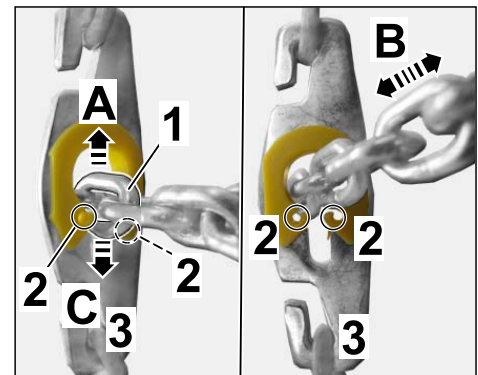
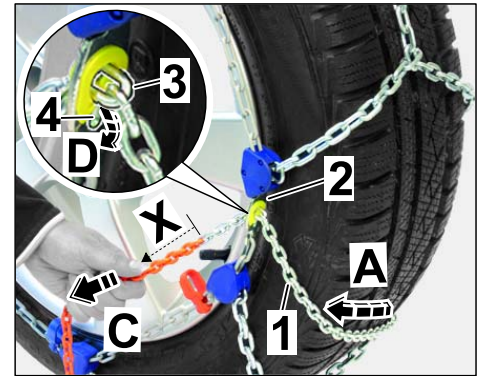

Figure 9
Figure 11
2.2.3 Guide chain link of the tensioning chain out of the lock in the slot on the locking plate (⇒ *Figure 9-A-*).
2.2.5 Pull the tensioning chain tightly through the locking plate (⇒ *Figure 11-C-*).
Check that the colored part of the tensioning chain (⇒ *Figure 11-X-*) is pulled completely through the locking plate.
Engage chain link of the tensioning chain in the slot and lock on the locking plate (⇒ *Figure 11-D-* or ⇒ *Figure 9-C-*).